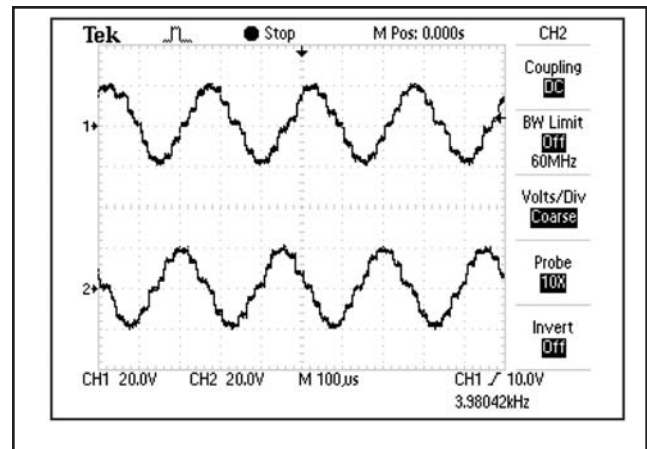

FIGURE 5.5
6. Compare waveform on scope to **Figure 5.5**.
8. Verify that the amplitude displayed below timer drops to zero (0).
1. Waveform is the same between scope and **Figure 5.5**, amplitude dropped to zero when paused and "Paused" displayed below timer.